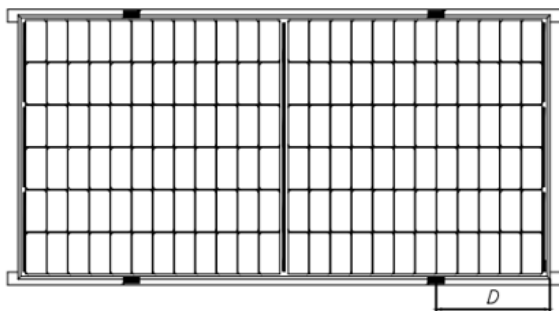

Fig.3 Rails overlapping the long-side frame
When PV modules are installed, each PV module must be fixed with at least 4 presses, as shown in Figures 3 、 4、 5、 6.
- ⑧ For the mounting shown in Figure 3, the overlap between the C surface of the module and the rail should be $\geq 25\text{mm}$. Astronergy's limited warranty will be void if improper clamps or improper installation is used.
- ⑦ To prevent modules from coming off the fixed device after installation, it is suggested to choose